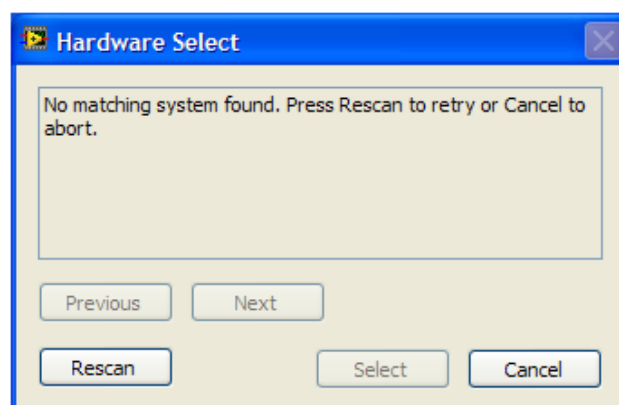

Figure 4. Connectivity Error Alert
2. If the evaluation system is not connected to the USB port when the software is launched, a connectivity error is displayed (see Figure 4). Simply connect the evaluation board to the USB port of the PC, wait a number of seconds, and click **Rescan**. Follow the instructions.